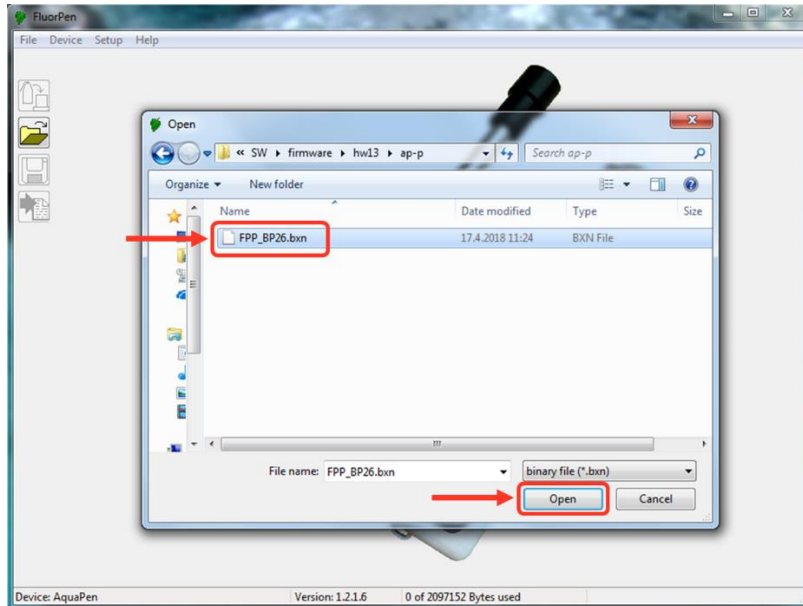

Fig. 25 Select .bxn file.
- Find: firmware update file: Binary file (with the extension .bxn) (Fig. 25).